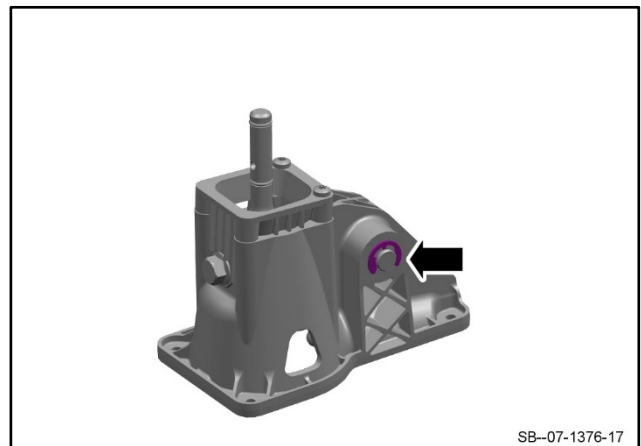

Figure 15
17. Install the circlip (refer to Figure 15).